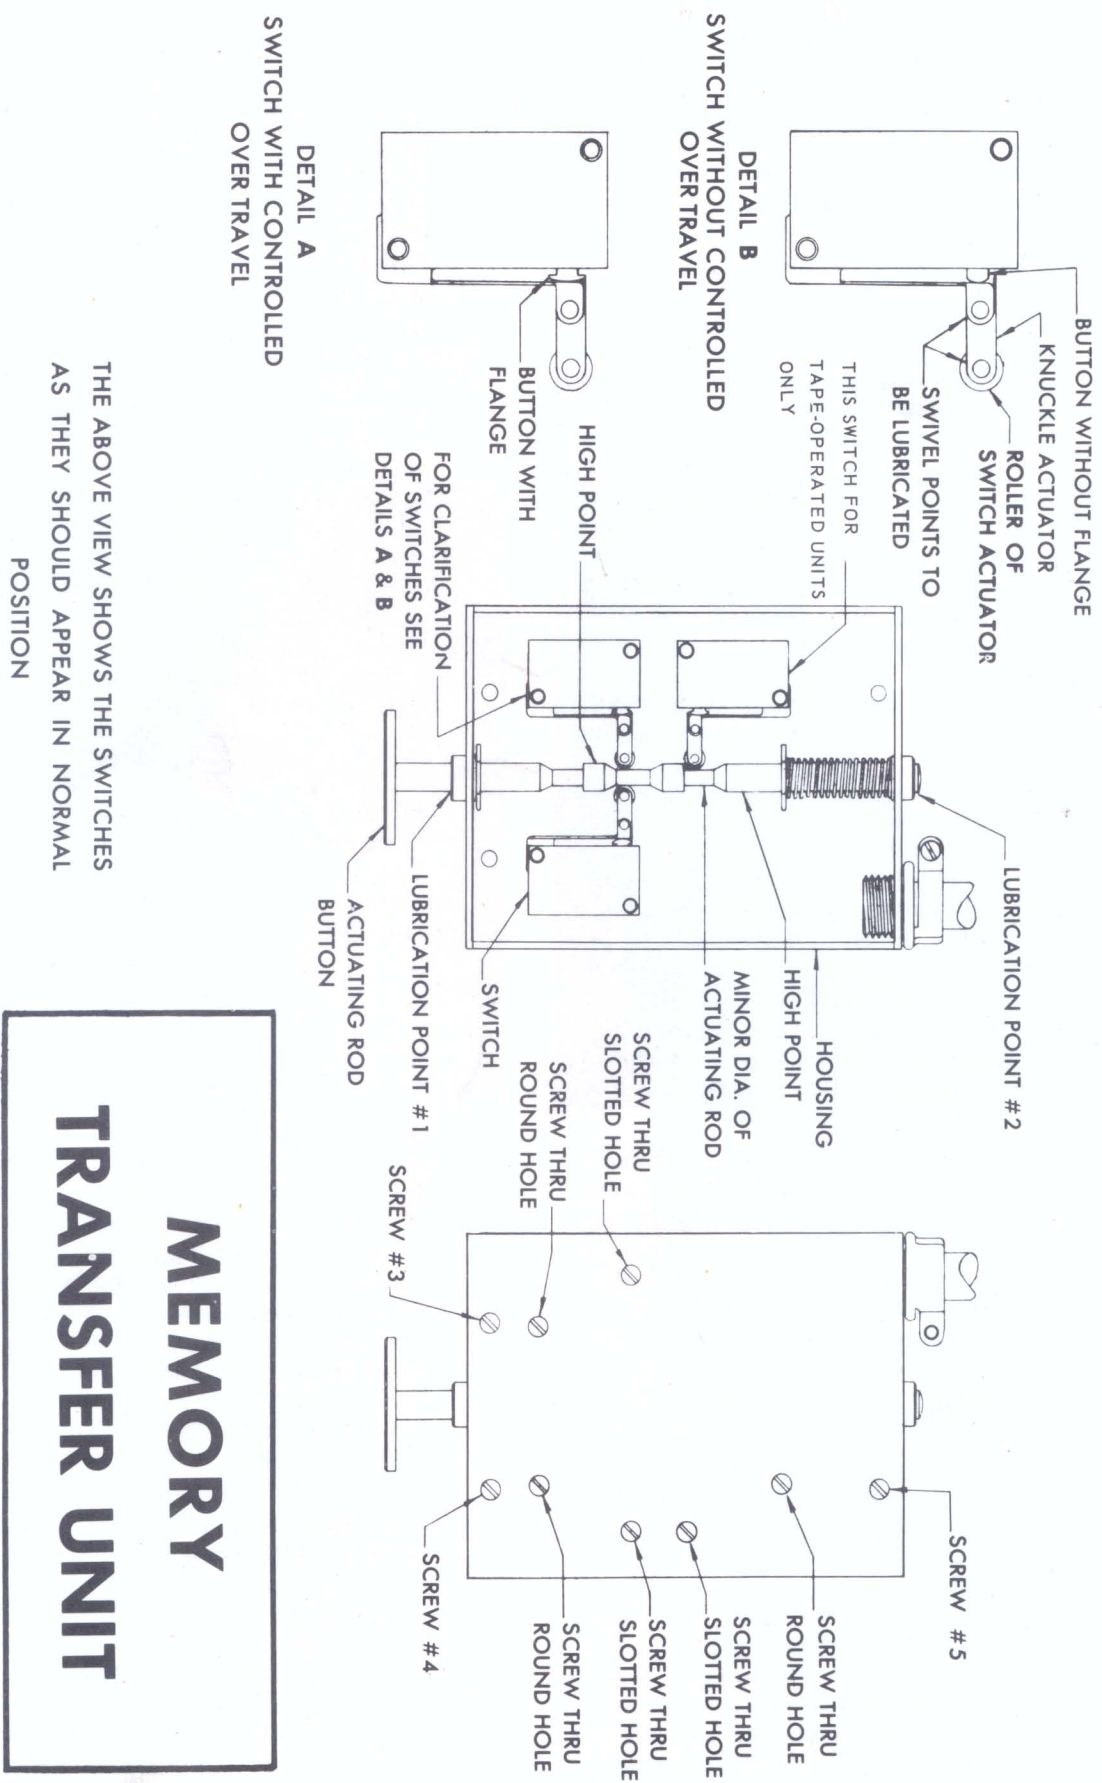

FIGURE 12
Step 3—THE MEMORY TRANSFER UNIT: (See Fig. 12). The trouble may lie in the maladjustment of the Switches in the Memory Transfer Housing either due to the accidental hitting of the Housing or through some other cause, such as lack of lubrication (see page 2).